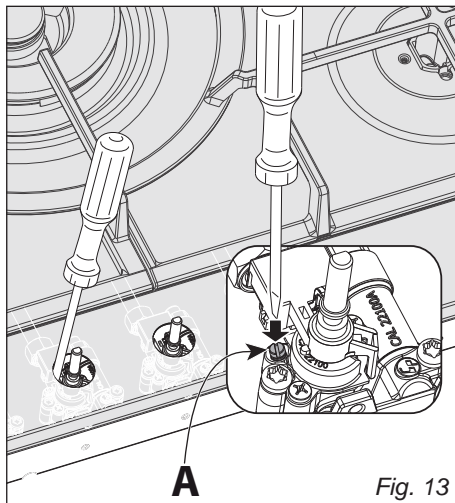

Fig. 13
- With a small flat screwdriver turn the screw "A" to the correct regulation (fig. 13).